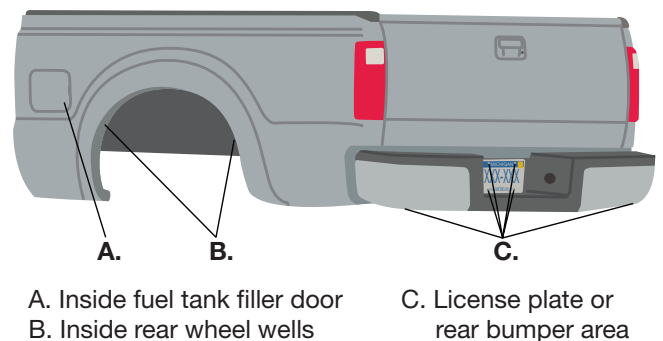

Fig. 14
1. Choose the locations for the Schrader valves and drill a 5/16" (8mm) hole, if necessary (Fig. 14).